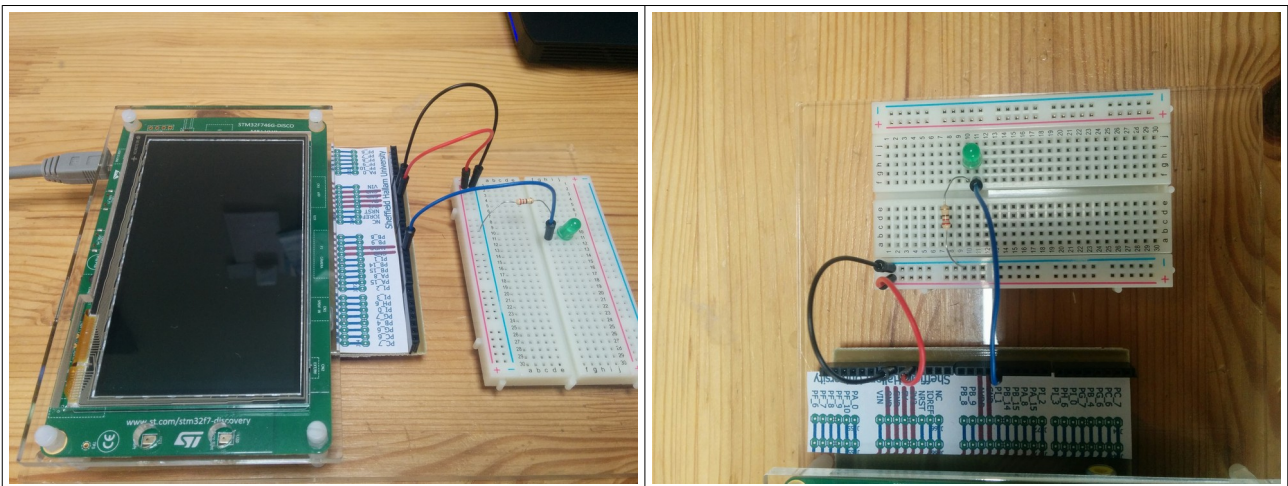

Figure 3 – The completed circuit
3. Once you have made a few 3 inch jumper wires it is time to wire up the breadboard. We will connect a 220 ohm resistor from the anode (long leg) of the LED to the positive supply rail on the breadboard, and connect the positive supply rail on the breadboard to PI_1 on the STM32F7 discovery board (the 19th pin from the left on the SHU baseboard kit). We will then wire up the cathode (short leg) on the LED to the negative supply rail on the breadboard and the negative supply on the breadboard to the ground pin on the STM32F7 discovery board. Figure 3 shows the completed and wired up circuit – if you have any questions about this circuit ask a member of staff.